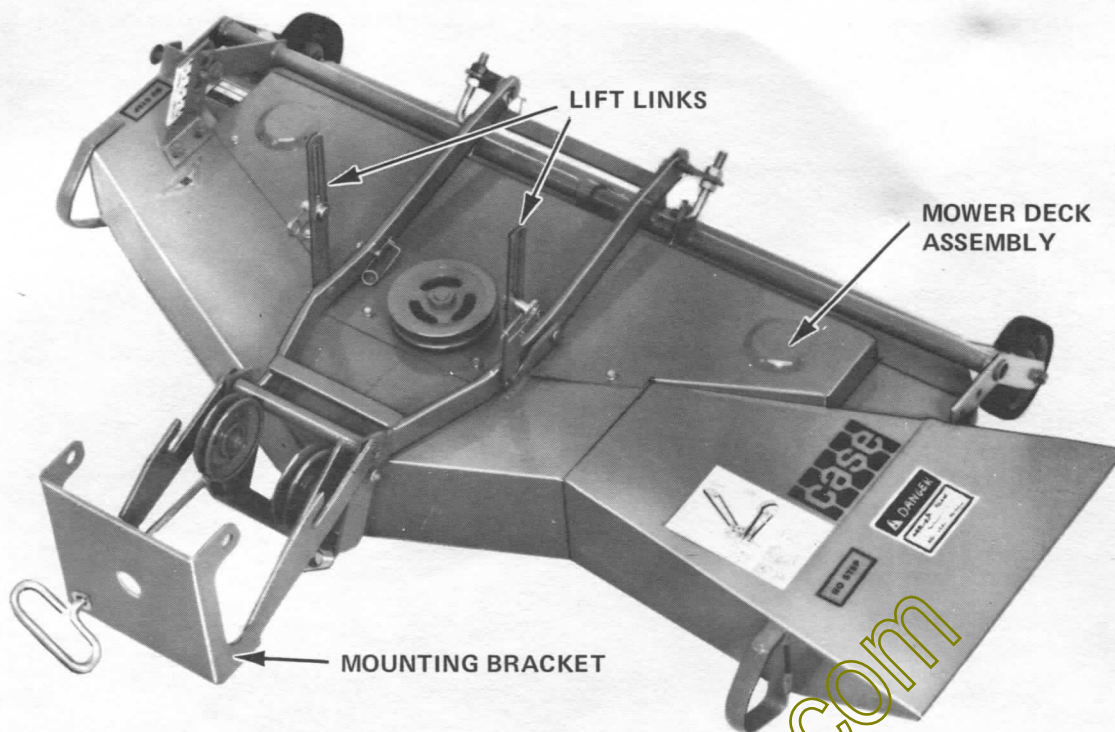

FIGURE 13 MODEL J-46 ROTARY MOWER - ASSEMBLED
3. Assemble the lift links to the mounting bracket and secure with cotter keys as shown in Figure 13.
Do not preassemble the mounting bracket to the mower deck as shown in Figure 13. It is easier to install the mounting bracket to the tractor first and then attach the mower deck to it.